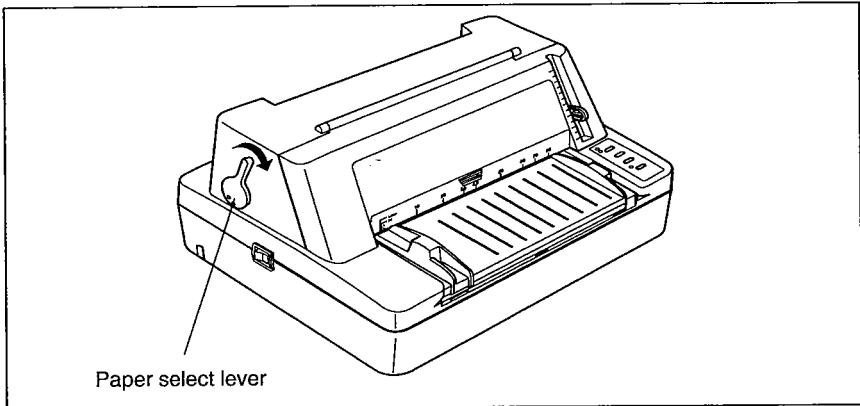

Figure 3-7 Setting the paper select lever
- 2 Set paper select lever toward the front of printer as shown in Figure 3-7.